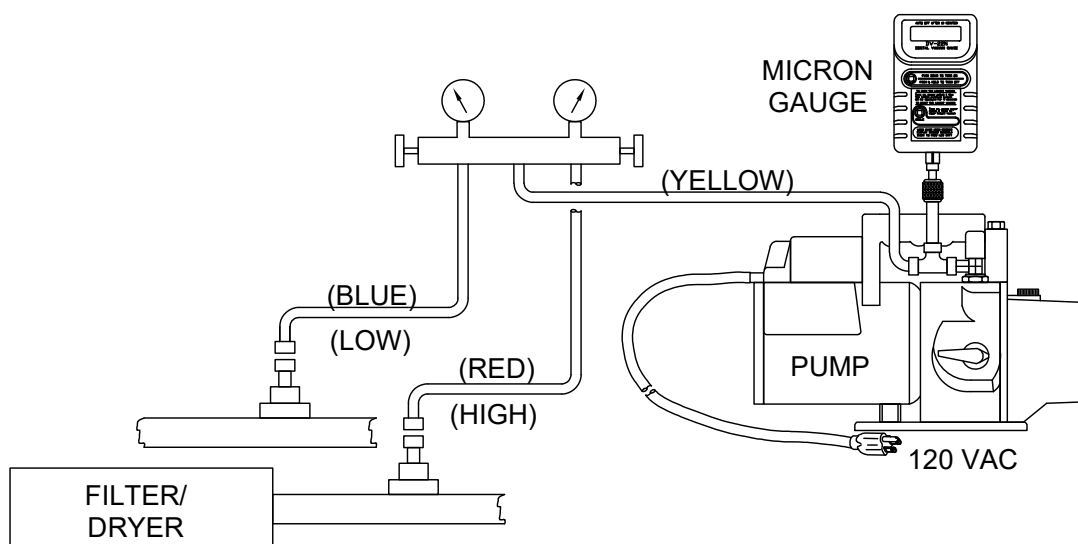

Figure 2. Evacuation Set-up (Field Method).
1. Connect high pressure hose (red) from gauges to high pressure port (located next to the filter/drier) inside the ECU (see Figure 2).
2. Connect low pressure hose (blue) from gauges to low pressure port (located behind to the filter/drier) inside the ECU (see Figure 2).